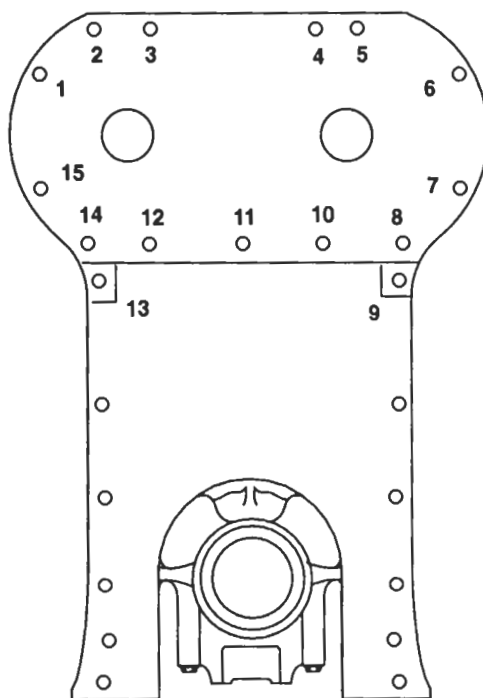

Figure 2. Balance Weight Cover Bolt Tightening Sequence
3. Tighten the bolts (Figure 2.) to 25–30 lb·ft (34–41 N·m) torque.